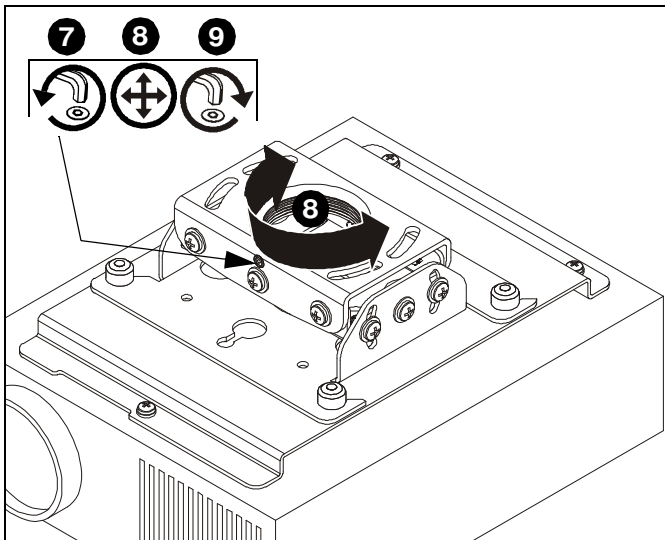

Figure 11
7. Loosen set screw. (See Figure 11)